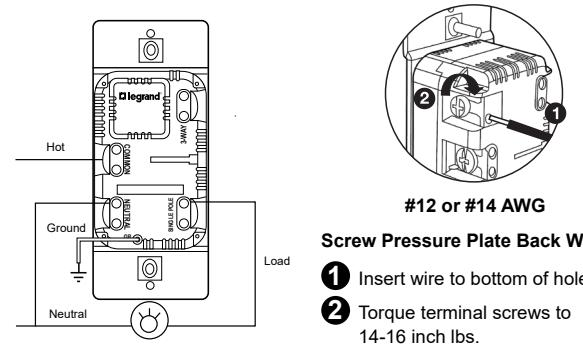

Figure 1 – Single Pole
- Connect dimmer as shown in the installation diagram using #12 or #14 AWG wire stranded or solid copper conductors. Note that the dimmer and 3-way switch positions may also be reversed from that shown. Strip the wire to the length shown on the back of the product (Figure 1 or Figure 2). Torque terminal screws to 14-16 inch lbs.